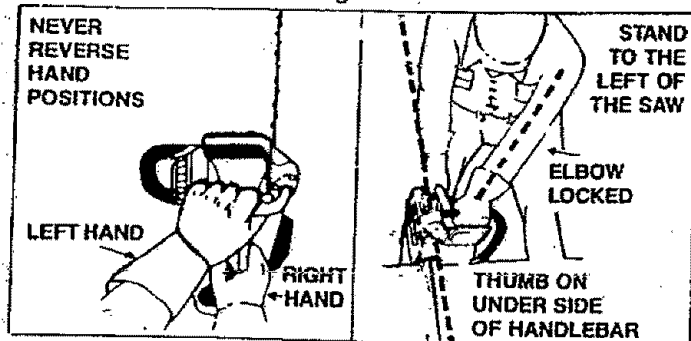

Figure 3
1. Keep a good firm grip on the saw with both hands when the engine is running and don't let go. Figure 3. A firm grip can neutralize kickback and help you maintain control of the saw. Keep the fingers of your left hand encircling and your left thumb under the front handlebar. Keep your right hand completely around the rear handle whether you are right handed or left handed. Keep your left arm straight with the elbow locked.
2. Position your left hand on the front handlebar so it is in a straight line with your right hand on the rear handle when making bucking cuts. Figure 3. Never reverse right and left hand positions for any type of cutting.
4. Stand slightly to the left side of the saw, to keep your body from being in a direct line with the cutting chain. Figure 3.